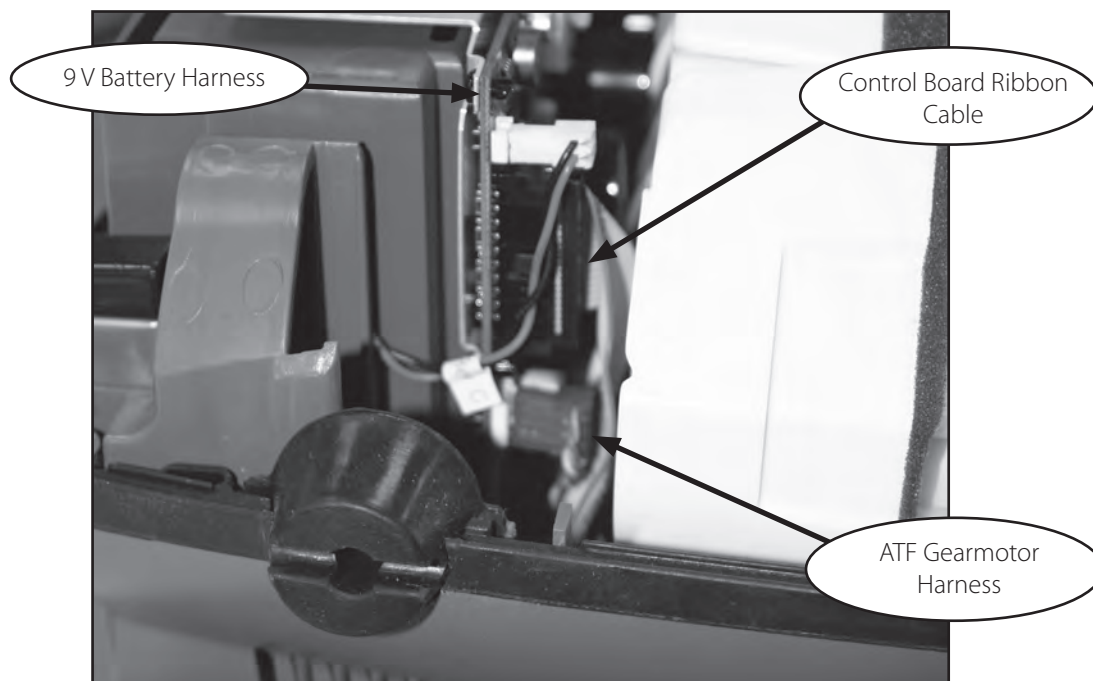

Fig 66: Wire harnesses and control board ribbon
- 1.6 Pull the Power Manager pcb 1" out of the case. Gently push the compressor box away from the Power Manager pcb about 1/8". Slide the board and the cabling out from under the edge of the compressor for better access. Disconnect the two wire harnesses (9V batt & ATF harness) and the Control board ribbon cable shown in Figure 66. Remove the Power Manager pcb.
2. Flip unit over onto a padded ESD safe surface. Using a small flat tip screwdriver to pry open the cover at each pry point, remove the Case Bottom Cover as shown in Figure 66.